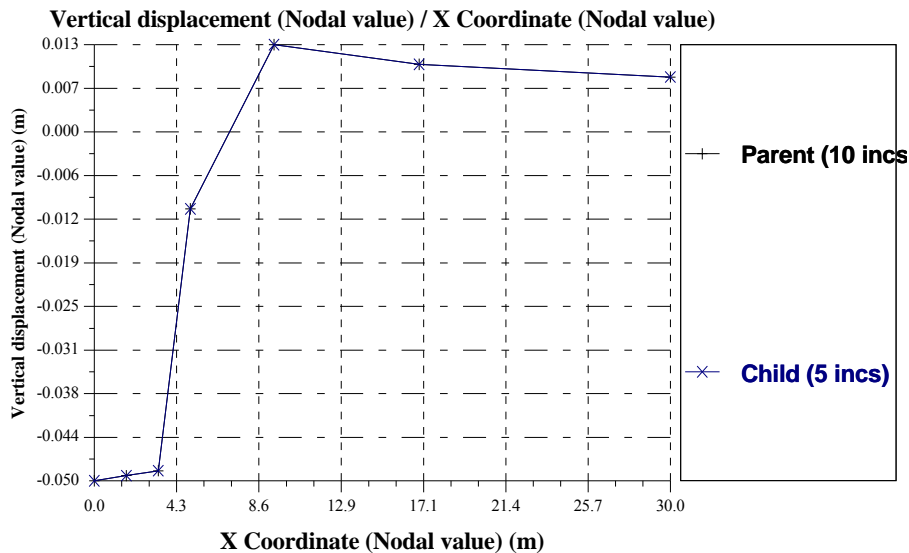

Figure 4-32: Comparison Of Vertical Deformations
- Step 11** Click on **OK** to exit, once you have finished. You should see a graph similar to that displayed in Figure 4-32.
- Step 12** The appearance of the graph can be altered in the in the Graph Configuration dialogue box. This is accessed via the Options menu, or by double-clicking on the graph itself. The options used in Figure 4-32 were 6 X axis divisions with minima and maxima of 0 and 30 respectively, 10 Y axis divisions with minima